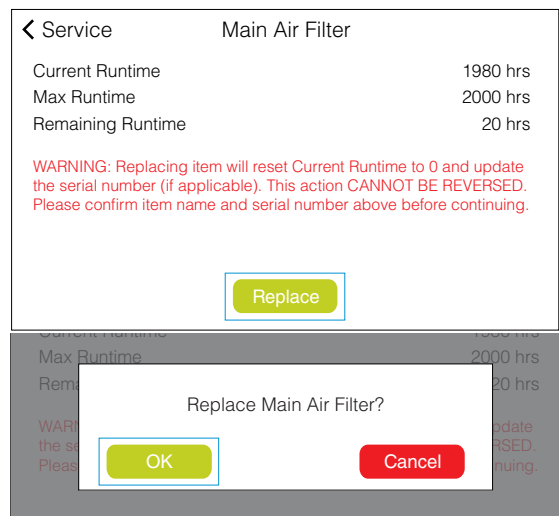

FIGURE 50. PRESS REPLACE; OK
8. On the Main Air Filter screen, press **REPLACE**. Press **OK** on the pop-up dialogue box (FIGURE 50).